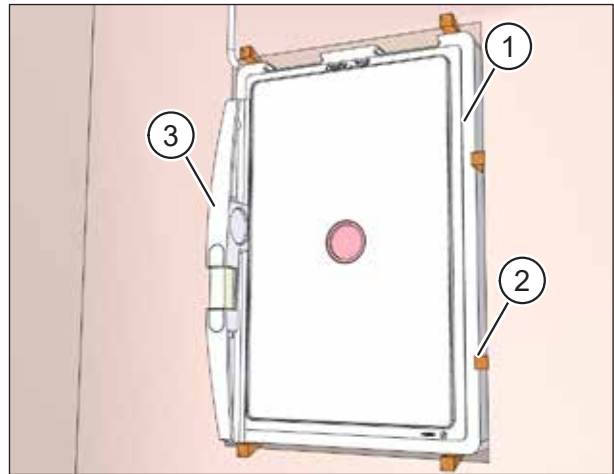

Fig. 22: Fixing the wall box
- ▶ Fix the wall box (item 1 in Fig. 22) in position in the wall breakthrough using wedges or air cushions (item 2 in Fig. 22) on both the inside and the outside.
- ▶ Use the spirit level (item 3 in Fig. 22) to align the wall box so that it is perpendicular and flush with the wall.